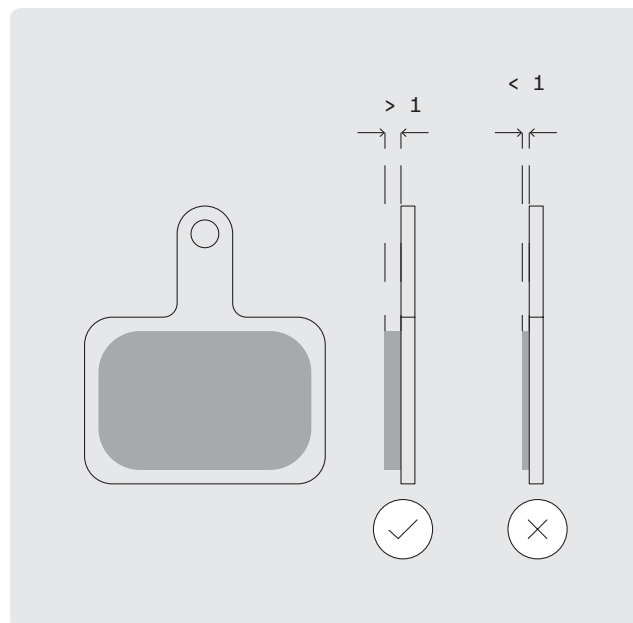

FIG. 41
- Replace the brake linings if they are less than 1 mm thick (Fig. 41). The brake linings should never be lowered so far that the support plates of the linings rub against the brake disc.